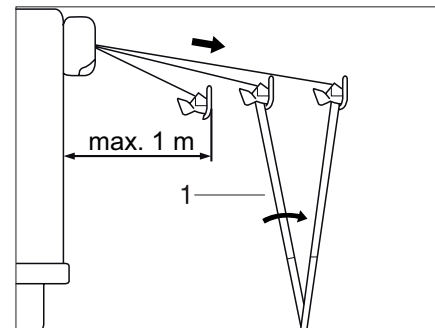

Fig. 20 Putting up the awning
- ▶ Fold out the support legs (Fig. 20,1) and set them on the ground.
- ▶ Remove the tent pegs of the support legs (Fig. 20,1).